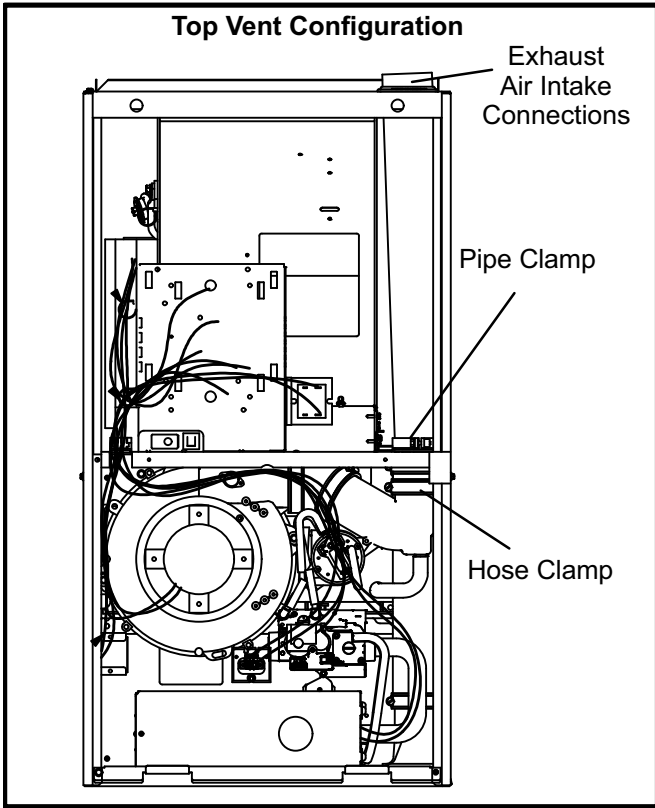

FIGURE 1
The downflow furnace is shipped with exhaust / air intake connection at the top cap. See figure 1. Using the parts provided in kit 87W73, the furnace may be field modified to have these connections on the left side of the furnace cabinet.
- 2 - Loosen hose clamps which attach rubber fittings to the white PVC pipes inside the vestibule area. See figure 1.
- 3 - Loosen the clamp which secures the pipes at the blower deck. See figure 1.